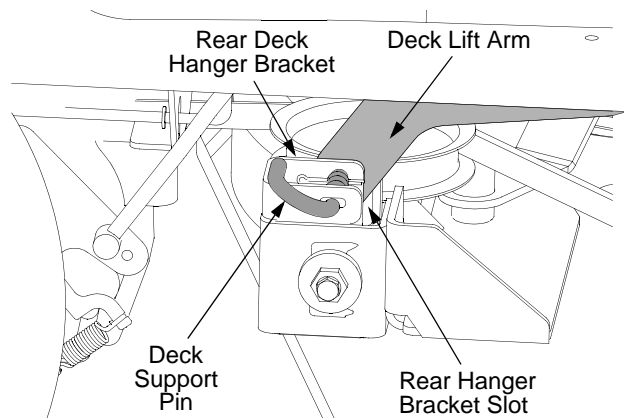

Figure 28
- Locate the LH and RH deck support pins on each side of the deck. Pull the deck support pins outward and lock in the disengaged position to release the deck from the tractor's LH and RH deck lift arms. See Figure 28.
4. Maneuver the deck so that the slots in the two rear deck hanger brackets approximately align with the deck lift arms of the tractor. Refer to Figure 28.
6. Pull the deck support pins outward and maneuver the deck as necessary to align the holes in the deck lift arm with the pins. Refer to Figure 28.